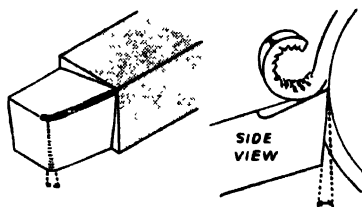

Fig. 11-14. End clearance angle. (The Shell Oil Company)
**End Clearance.** This term (or *end relief*) indicates that the nose or end of a tool has been ground back at an angle sloping down from the end cutting edge (Fig. 11-14). End clearance concentrates the thrust force exerted on the nose of the tool in a small area adjacent to the end cutting edge.